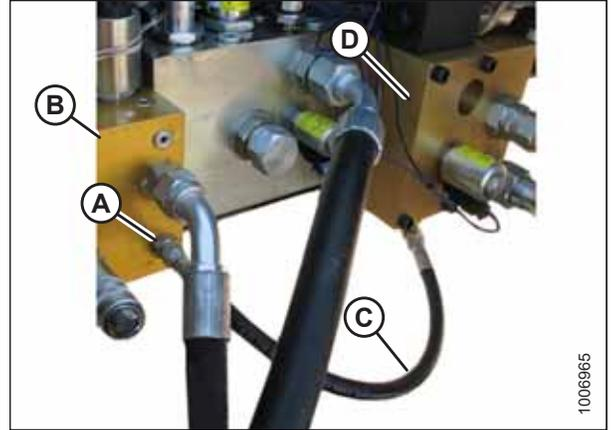

Figure 3.69: Connected Jumper Hose
2. Disconnect jumper hose (B) from 90 degree fitting (C) at port R4 on the reverser valve block (A).
3. Rotate 90 degree fitting (D) under reverser valve block so hose can be routed to port C2 at (C) as shown in Figure 3.69, page 55.